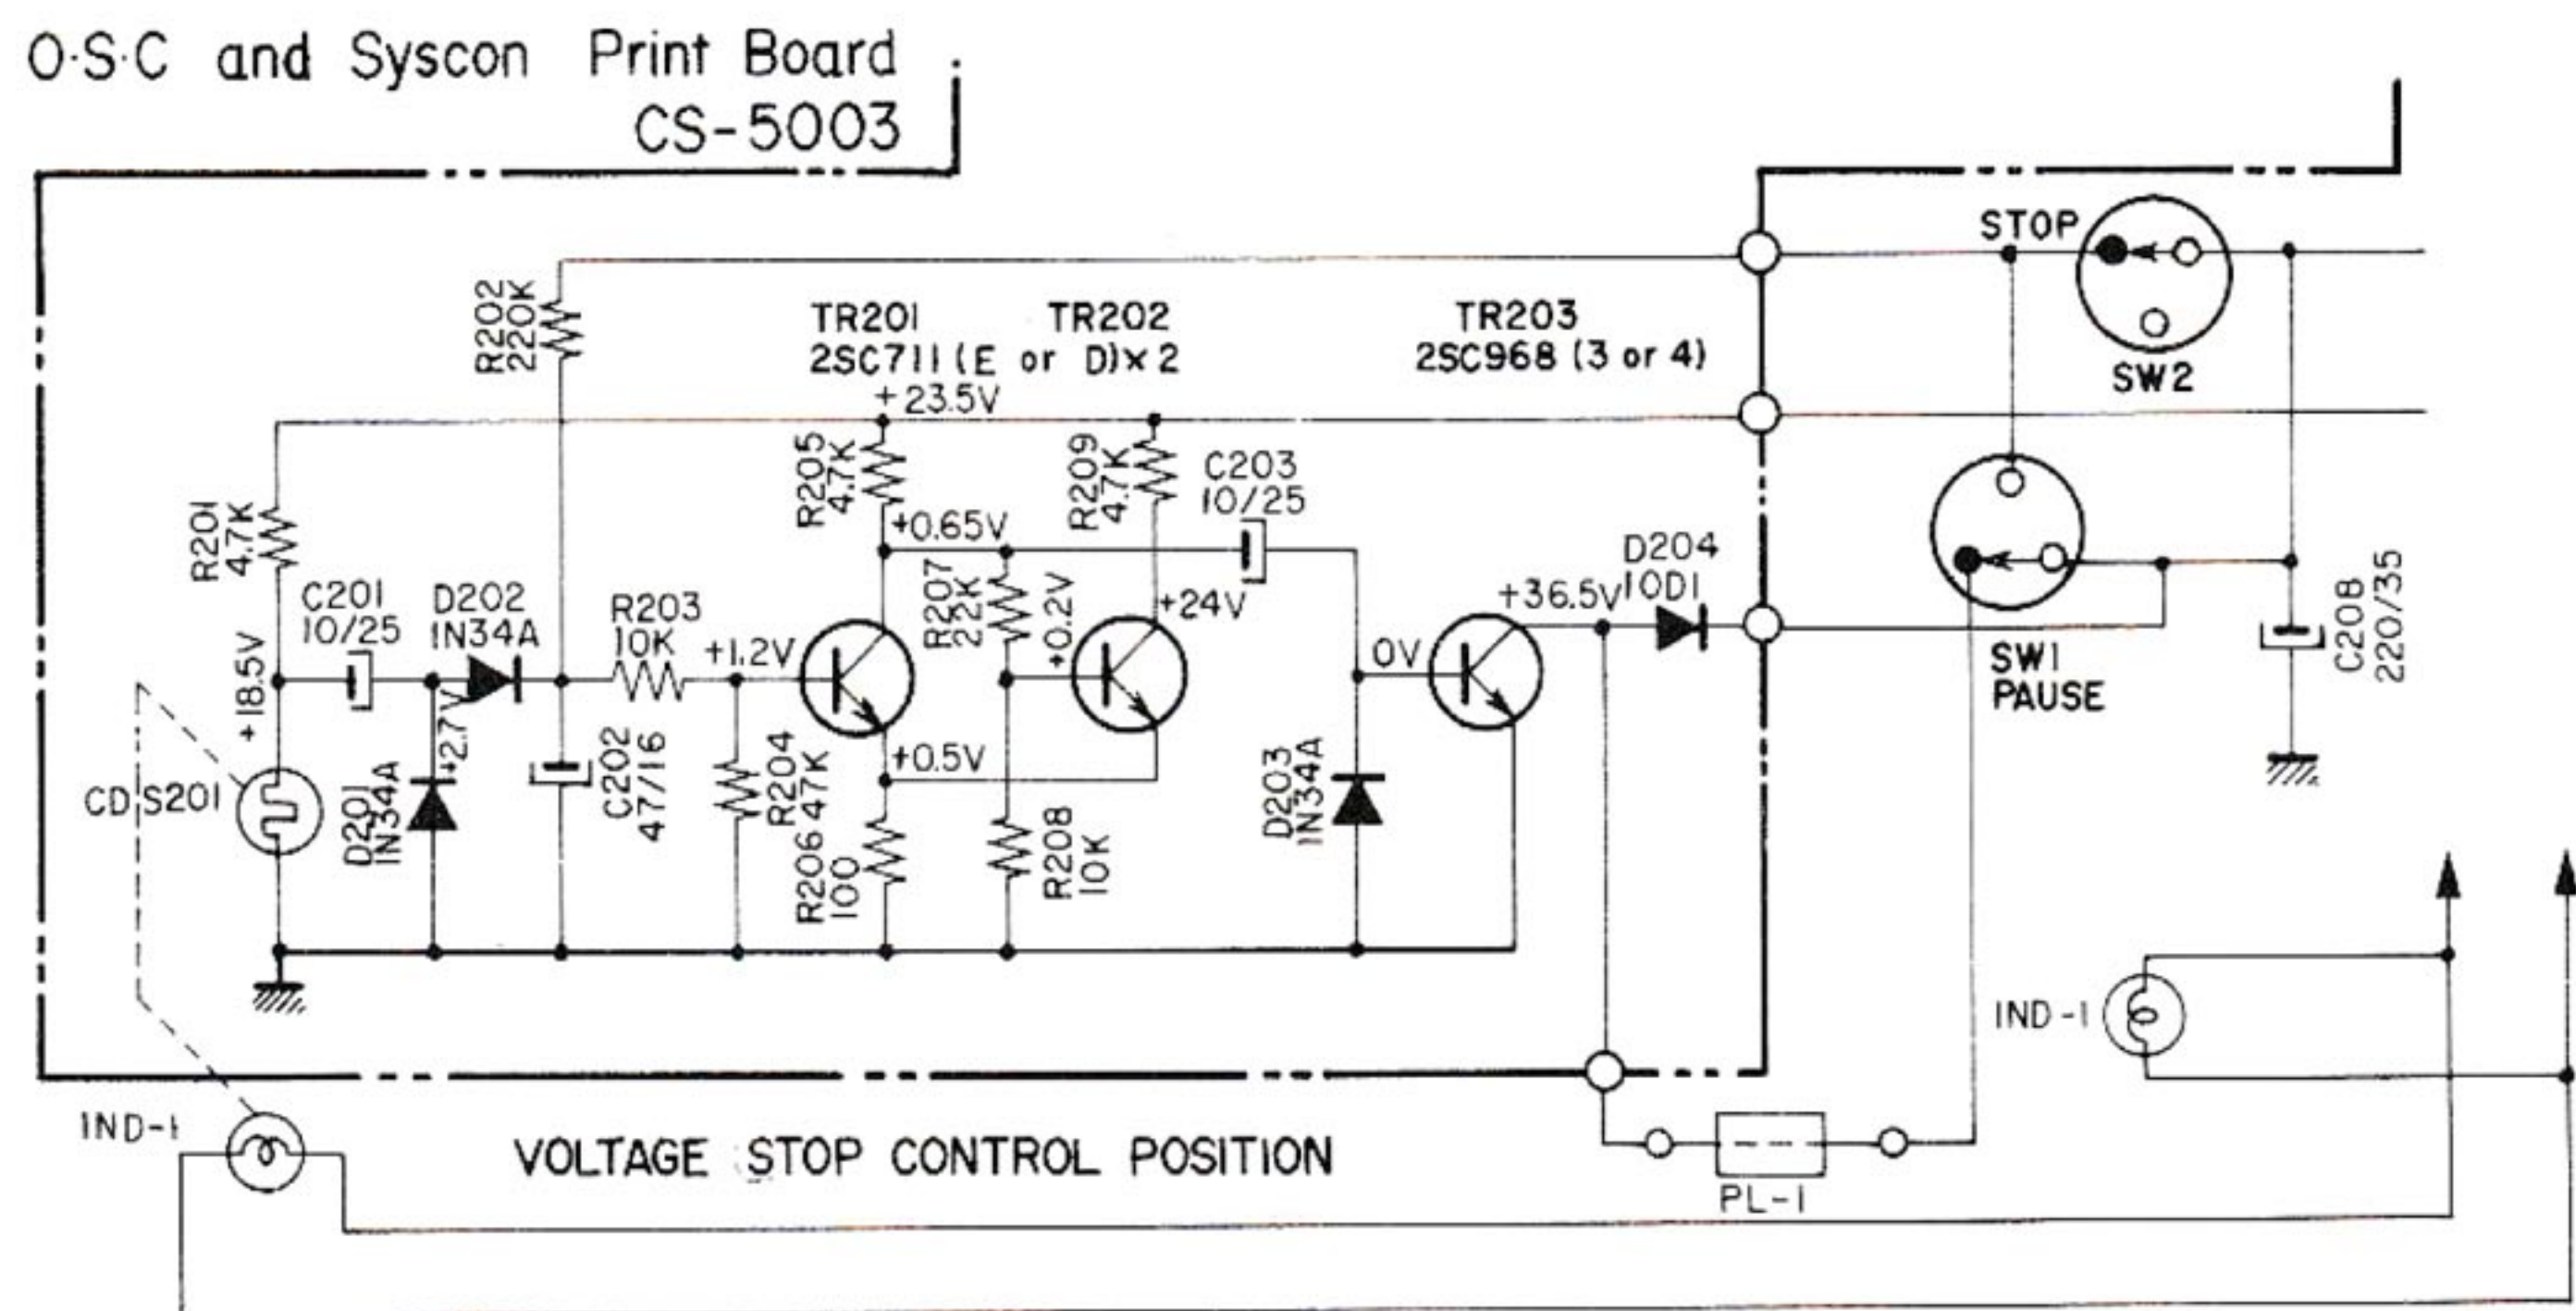

Fig. 5
4. CASSETTE AUTO-STOP CIRCUIT OPERATING PRINCIPLE (See Fig. 5)
When the light is not lit, the CDS resistance portion becomes high and TR-201 is turned "Off". At this time, C-203 becomes a (+) electrical potential and because it is being charged with electricity (for about 0.2 seconds), electricity flows to the base of TR-203, TR-203 is turned "On", and Plunger (PL 1) is turned "On". TR-202 is stabilized. (See Fig. 5).